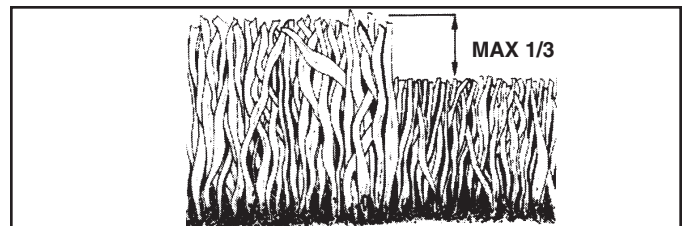

FIG. 9
- For best results, adjust the mower cutting height so that the mower cuts off only the top one-third of the grass blades (See Fig. 9). For extremely heavy mulching, reduce your width of cut on each pass and mow slowly.